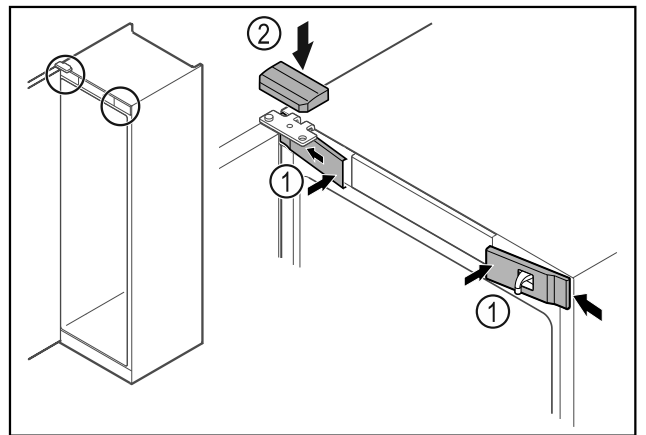

Fig. 50
- ▶ Hook in the front covers Fig. 50 (1) on the side and snap them into place.
- ▶ Snap on the top cover Fig. 50 (2) from above.